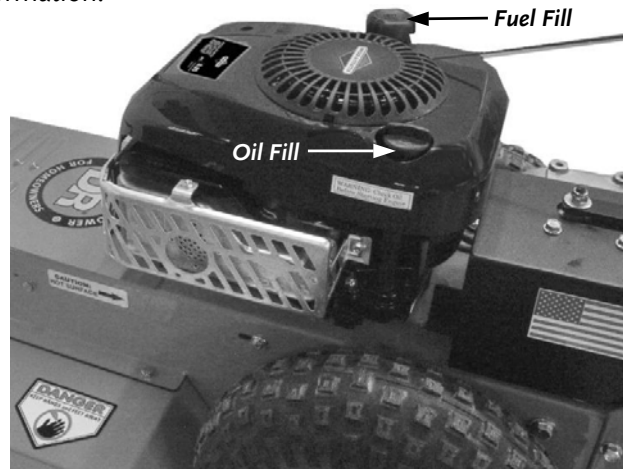

Figure 2
1. Place the machine on a level surface and initially add 10oz. of SAE 30 high detergent oil (recommended by the Engine Manufacturer) into the Oil Fill (**Figure 2**) and wait one minute for the oil to settle.
1. Check the oil level every time you use the machine. See **Figure 2** on page 14.
2. Check the gas level (**Figure 2**).